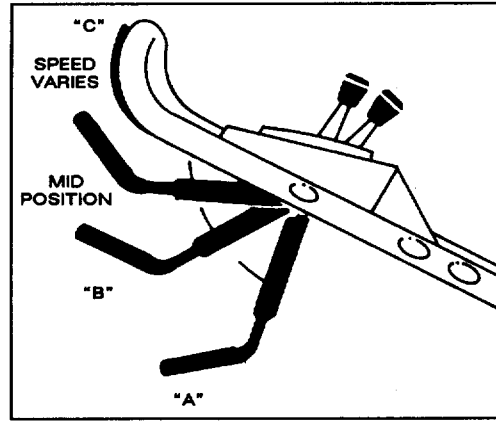

Figure 8
4. **BLADE AND TRACTION OPERATION** (Fig. 8)—Move control bar down to "A" and raise to "B" to engage blade. Squeeze control bar against handle "C" to drive. Ground speed varies, depending on space between control bar and handle. To disengage traction drive but keep blade engaged, gradually release control bar to mid position. To self-propel with blade disengaged, simply squeeze control bar against handle, eliminating downward movement necessary for blade engagement.